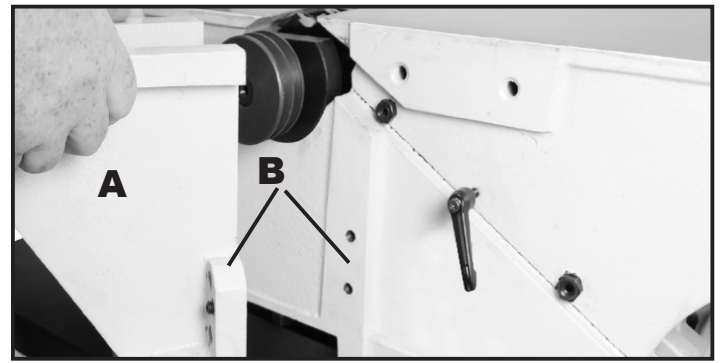

FIG.5.4.1
- Hold the Fence Mounting Bracket (A) over the cutterhead pulley and align the mounting holes (B) to the jointer base. FIG. 5.4.1